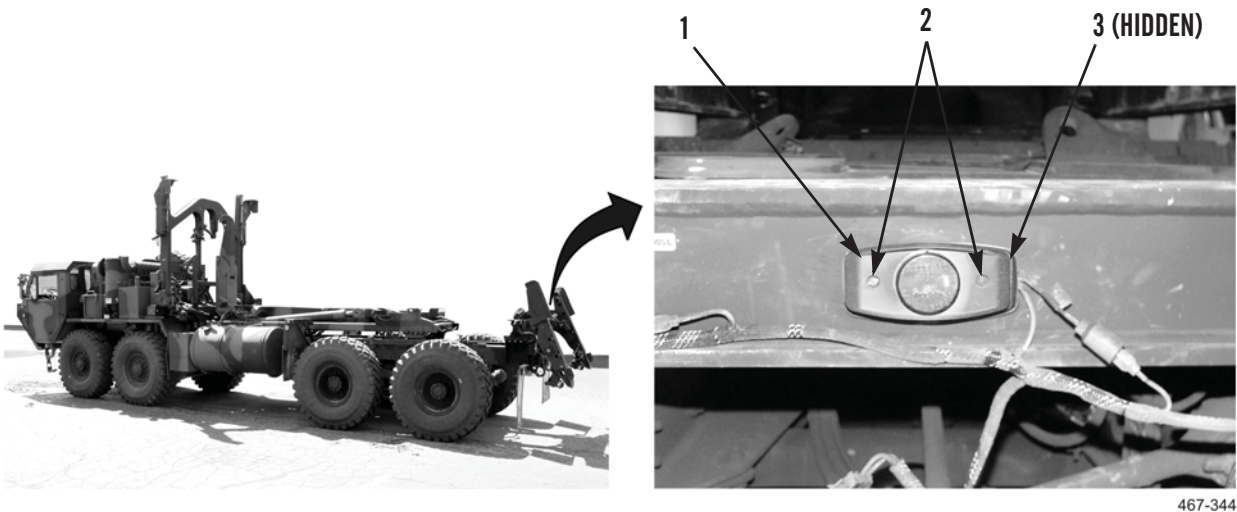

Figure 20. Slider Beam Light Cover Installation.
12. Install light cover (Figure 20, Item 1) and two screws (Figure 20, Item 2) on light (Figure 20, Item 3).